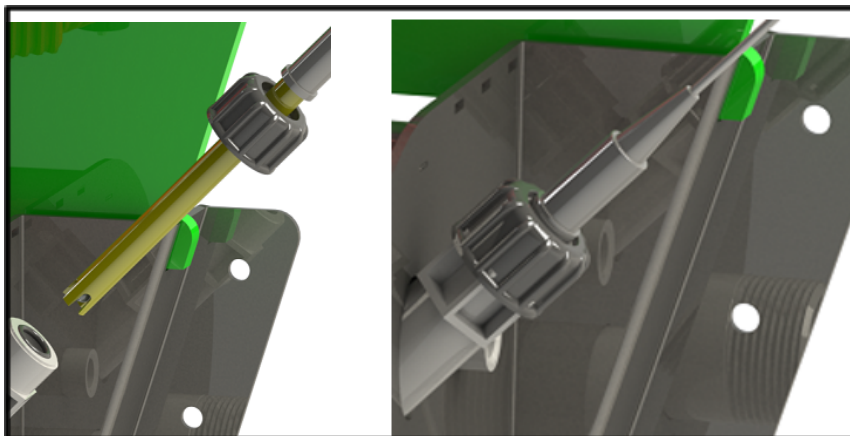

Figure 15
2. Insert the pH probe through the black nut, then insert the pH probe into the holder and tighten the nut (see Figure 15).